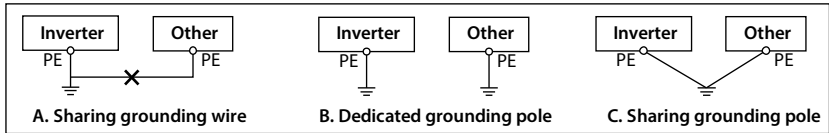

Figure 4-15 Grounding method
Do not share the grounding wire with other devices (A). HD20 can share grounding pole with other devices (C). It achieves the best effect if HD20 and other devices use dedicated grounding poles (B), as shown in Figure 4-15.